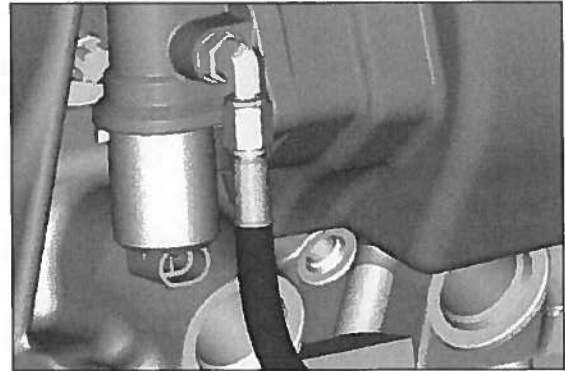

Fig. 31
- Securely attach the high pressure line to the valve. Tighten hose end fitting 2 flats from finger tight (**Fig. 31**). If wet spline option connect hose to tee fitting on the flange. Not available for the 287 Series Installations.